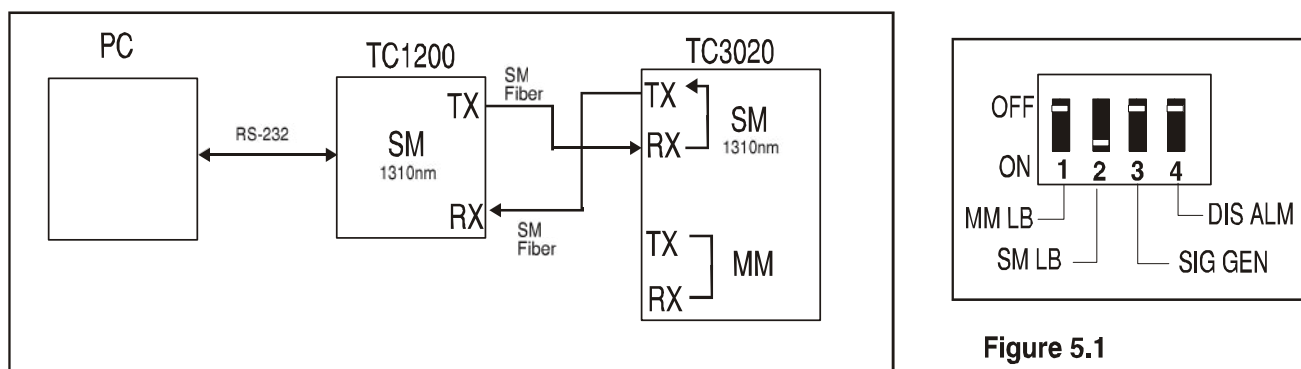

Figure 5. Single Mode loopback test on TC3020.
- A. Testing your TC3020 for performance will require the testing setup shown on Fig. 5. Follow the connections shown on this figure and connect your equipment accordingly. You must also locate the DIP switches on the front panel of the TC3020 and enable the (SM LB) switch (switch #2) to the “ON” position as shown on Fig. 5.1.